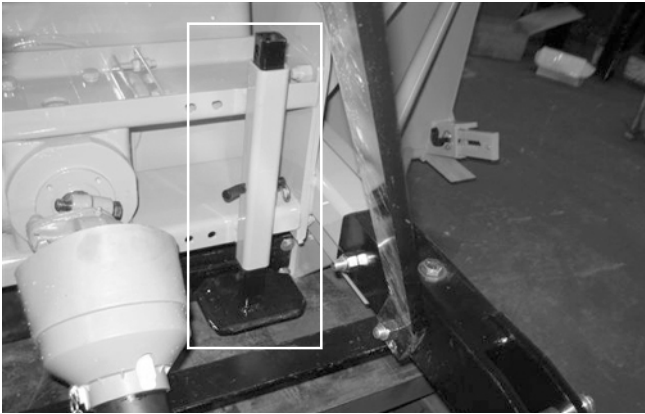

Figure 20
- 6) Following the installation of the Snowblower on the tractor, **do not forget** to lift the storage support (Fig. 20).